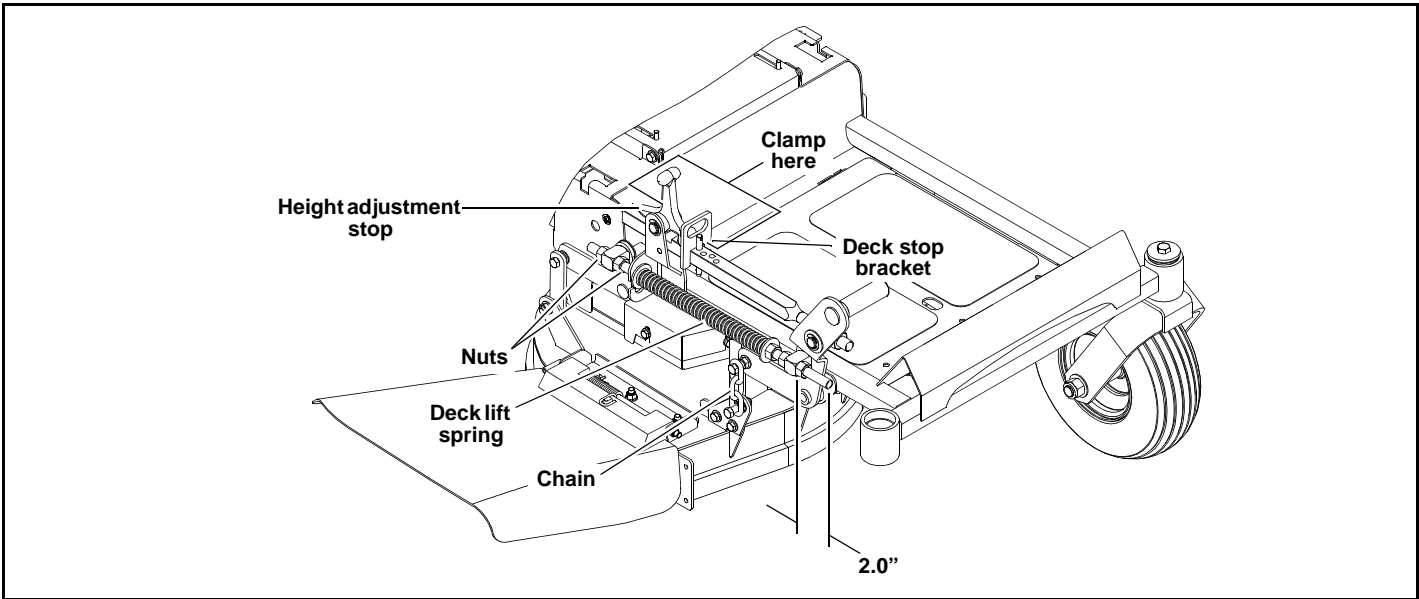

Figure 6-2
5. Clamp the height adjusting stop against the deck stop bracket. This will assure that the height will not move during the setting process. Figure 6-2
7. Loosen the two nuts at the rear of the deck lift spring. Figure 6-2
10. Set the amount of threads protruding on the deck lift rod from the lift block at approximately 2.00". Figure 6-2
11. Jam both nuts against the block. Figure 6-2
If there is slack in the chain, adjust the rear nut forward against the square block on the deck lift indicator to gain tension. Figure 6-2
15. Move to the right rear lift point. Tighten the rear nut against the square block until the right rear of the deck begins to lift off of the block. Finger tighten the front nut against the block then tighten the two nuts. Figure 6-2